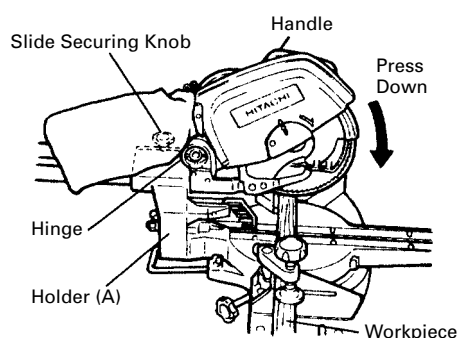

Fig. 21
Slide the hinge down to holder (A), then tighten the slide securing knob as indicated in Fig. 21.